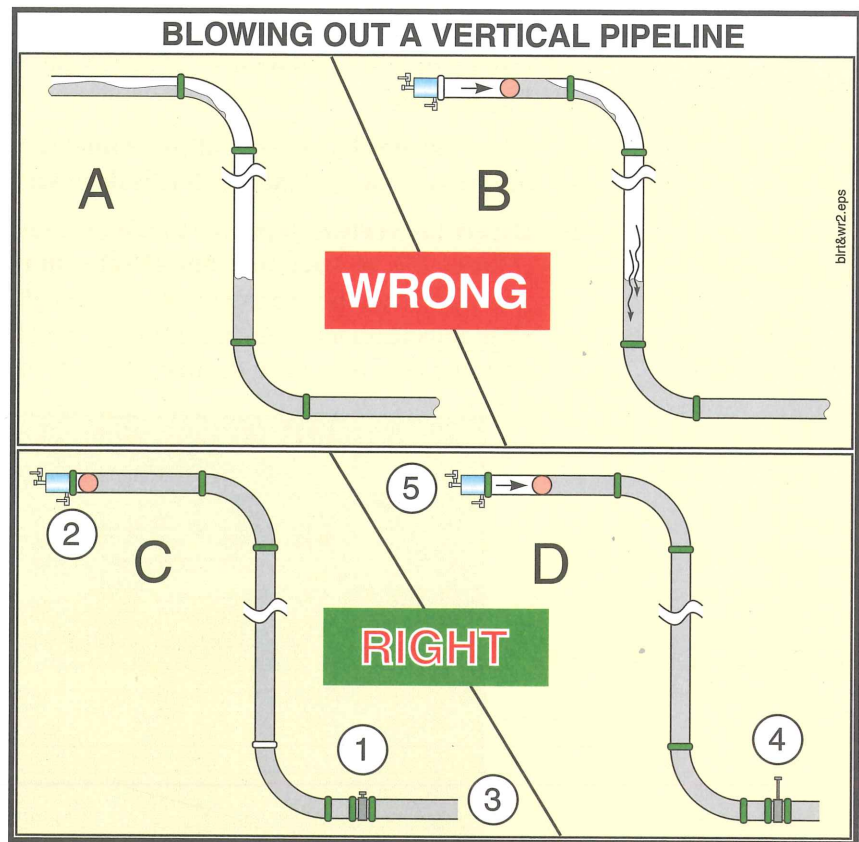

Figure 34
1. (See diagram A in Figure 34.) Without a shutoff valve installed, the pipeline is disconnected from the pump. Immediately, the concrete drains out of the vertical sections of pipe, leaving concrete in both horizontal sections, and air trapped in between.
2. (See diagram B in Figure 34.) The ball is inserted, and pushed with compressed air. This also compresses the air that is trapped in the vertical sections of pipe. The trapped air will be violently expelled when it reaches the end of the pipe, but the pipe will not yet be empty.
4. When pumping is complete, close the shutoff valve before disconnecting the pipeline from the pump (Item 1, Figure 34). Failure to do this will cause the concrete to fall out of the vertical sections of pipe, leaving concrete in the horizontal sections of pipe and an air pocket in the vertical sections. This does not apply if you are using a switching (diversion) valve.
5. Install the ball(s) in the pipeline, secure the blowout head and hook up the air compressor. Do not apply the air yet! (Item 2, Figure 34.)
7. **Position the ready mix truck at the cleanout standpipe**, or install the ball catcher or other containment device at the end of the discharge line. (Item 3, Figure 34.)
9. **Divert the vertical pipe line to the cleanout area and secure the discharge (Figure 35), or open the shutoff valve in the delivery pipe line now.** Allow gravity to start the concrete moving through the discharge line. As the concrete falls from the vertical sections, it will take the ball with it, making it impossible to trap air in the line. (Item 4, Figure 34.)
10. **Apply the compressed air to the pipeline.** Close communications must be maintained at this time. Add only enough air to keep the concrete moving. Do not allow the concrete to accelerate. (Item 5, Figure 34.)